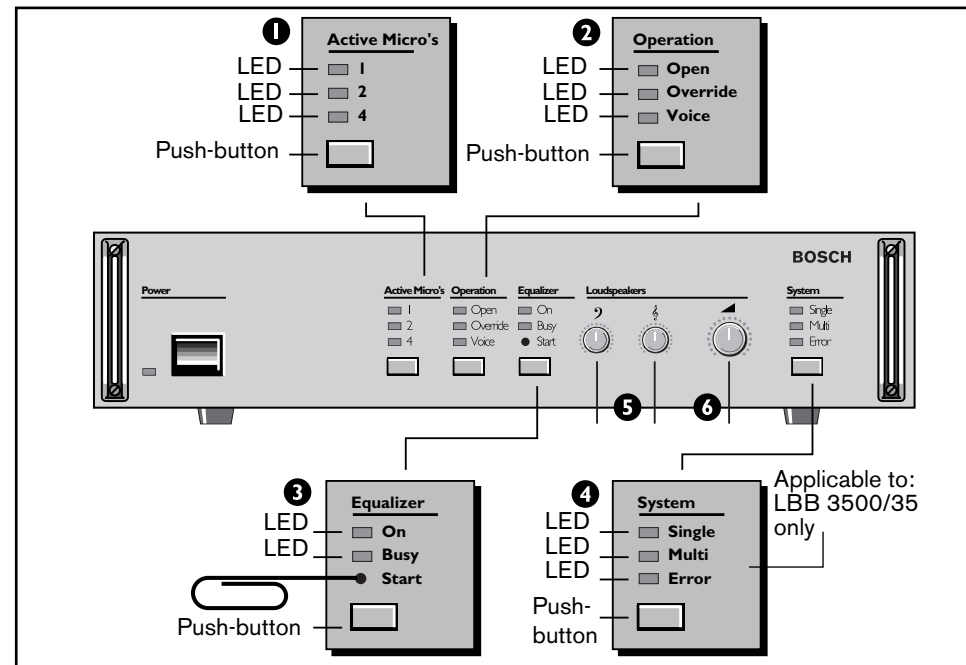

FIG 11-2 CCU (version illustrated LBB 3500/35)
Refer to FIG 11-2 \(4\), Single or Multi-CCU mode can be centrally selected using Multi-CCU software package LBB 3586. Using the 'System' mode push-button, the Multi-CCU LBB 3500/35 can be selected for use in Single mode if the LED indication for Multi-CCU mode is seen to flash.
11.2.2 Microphone control modes (FIG 11-2 \(2\))
4. Switch-on each CCU one-by-one and ensure that they are in the 'Single' mode. The 'Single' mode is selected by pressing the 'System' push-button located on the units front panel for at least 3-seconds (refer to FIG 11-2).
To produce optimum speech intelligibility for a particular discussion room or conference hall the CCU includes a built-in system audio equalization facility. This facility automatically sets the overall audio characteristics of the DCN unit loudspeakers. (see fig 11-2 9(3)).
- Control  (FIG 11-2 (6)) sets the overall volume/gain level of the discussion unit loudspeakers in 1.5 dB steps throughout the entire system.
1. Control  (FIG 11-2 (5)) sets the overall system treble control of the contribution unit loudspeakers.
2. Control  (FIG 11-2 (5)) sets the overall system bass control of the contribution unit loudspeakers.